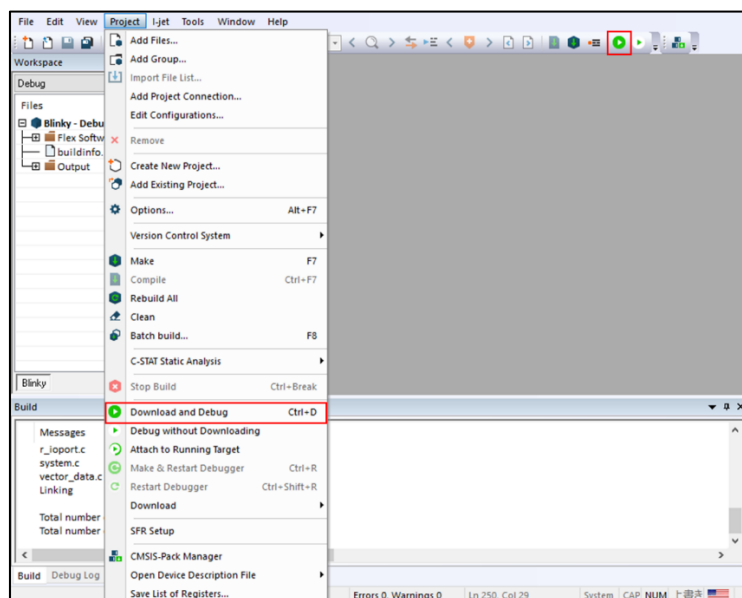

Figure 77 : Download and Debug Button
3. Download of the primary project with procedure 5.3.4 Download & Debug the Project as shown in Figure 77.